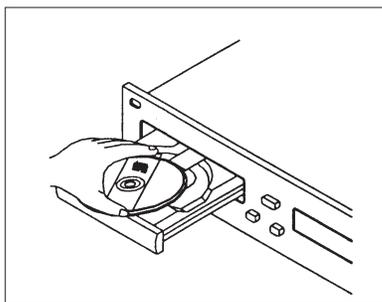
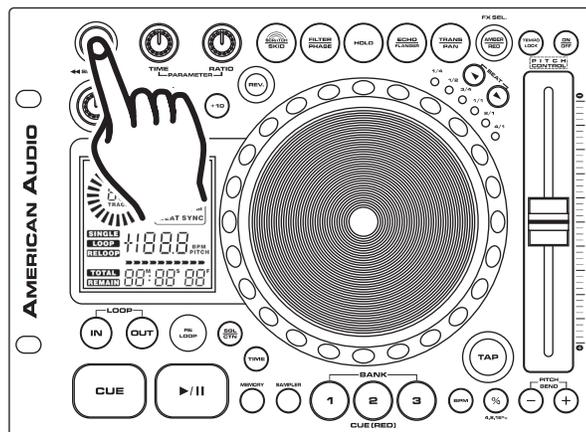

Figure 6: When loading a disc always hold the disc by its edges and load the disc label side up.
Figure 7: Hold down the Eject Button to remove a disc.
The DCD-PRO1000™ can only play 3 and 5 inch CDs. Odd shaped, and oval CDs are not compatible. When loading a CD into the transport tray, always hold the disc by its edge (see Figure 6). Load the disc label side up and place it in the disc tray. Never touch the signal surface (the glossy side). To remove a disc from the tray press the *EJECT BUTTON* (1), see Figure 7.